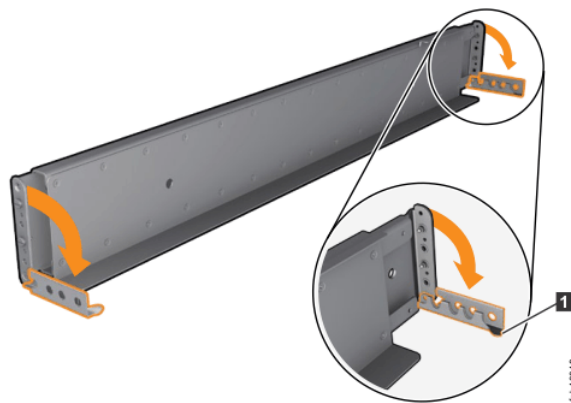

Figure 37. Opening the hinge brackets
6. At each end of the rail, grasp the tab **1** and pull *firmly* to open the hinge bracket (see Figure 37 on page 79).